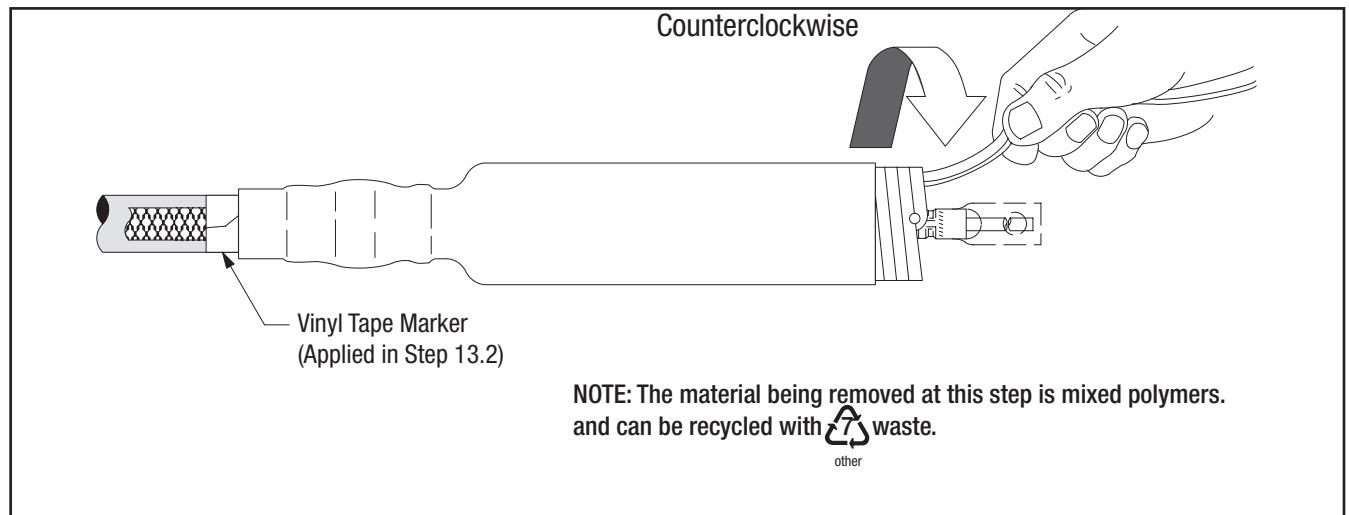

Figure 26
- 16.1 Slide the termination body onto the cable and remove core. Make sure the termination body (not the core) is butted up to the edge of the vinyl tape marker previously applied in Step 13.2 (Figure 26). Pull the core while unwinding, counterclockwise, starting with the loose end (Figure 26). Be sure to alternate the pulling and unwinding actions (pull-unwind-pull-unwind-etc.) to help prevent the core material from binding up as the core is being removed.